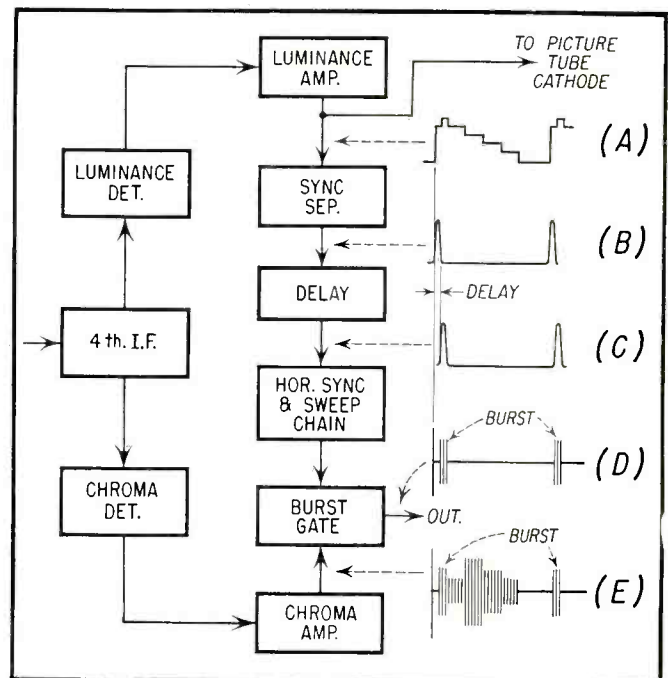

Fig. 7—Sync signal delay in horizontal sync and sweep chain produces burst signal in output.
Referring to Fig. 7 we observe that the composite if signal is fed into two detectors, one detector being in the luminance channel and the other in the chrominance channel. The output of the luminance amplifier (A) contains the sync and luminance signals. These are fed into the sync separator the output of which (B) contains only the